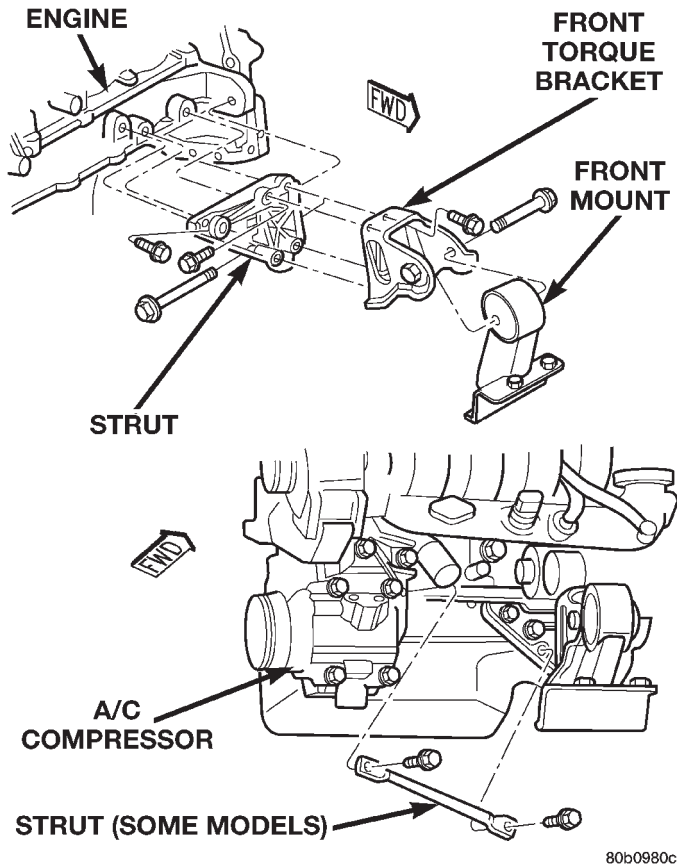

Fig. 13 Engine Mounting—Front 2.0L
- (1) Raise vehicle on hoist.
- (2) Remove through bolt at front mount (Fig. 13).
- (3) Remove attaching bolts from mount to lower radiator support.
- (1) Position front mount. Position damper weight (some models) and install front mount to lower radiator support attaching bolts. Tighten bolts to 61 N·m (45 ft. lbs.).
- (2) Install through bolt and tighten to 61 N·m (45 ft. lbs.) (Fig. 13).
- (3) Lower vehicle.